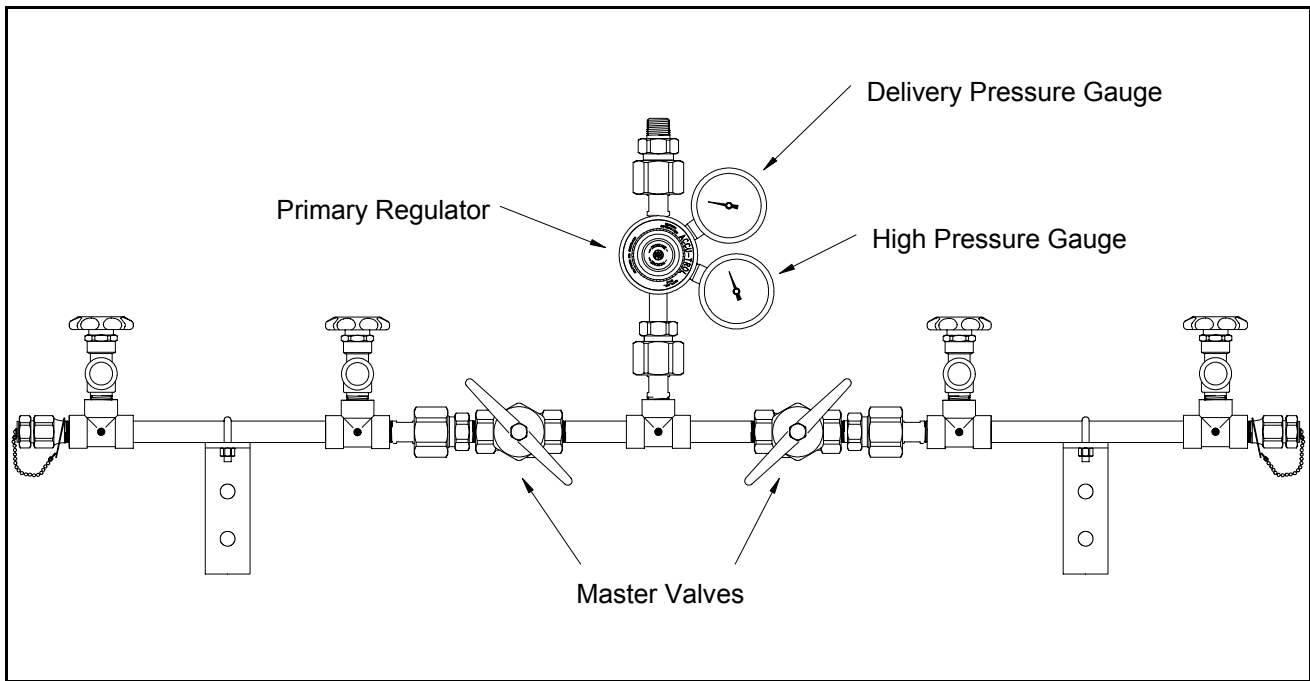

FIGURE 9
1. S-L-O-W-L-Y open the master valve (turn counter-clockwise to open). The high pressure gauge will show the pressure of the bank of cylinders. (Figure 9)